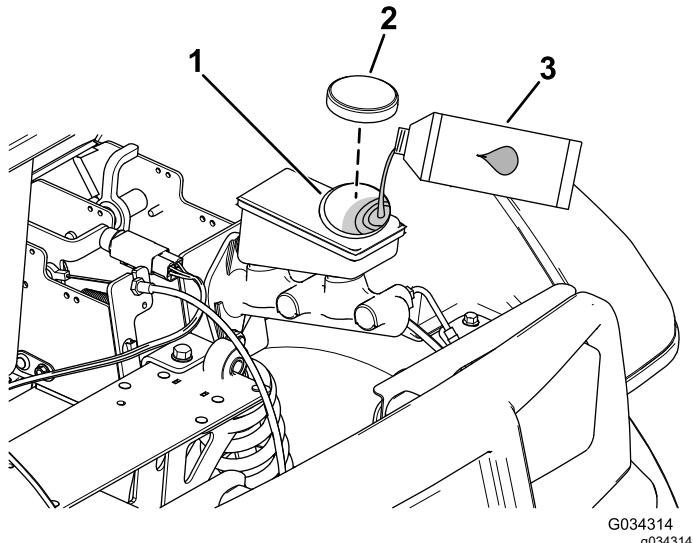

Figure 61
4. Raise the hood to gain access to the master-brake cylinder and reservoir (Figure 61).
- A. Clean the area around the reservoir cap and remove the cap (Figure 61).
- C. Install the reservoir cap (Figure 61).